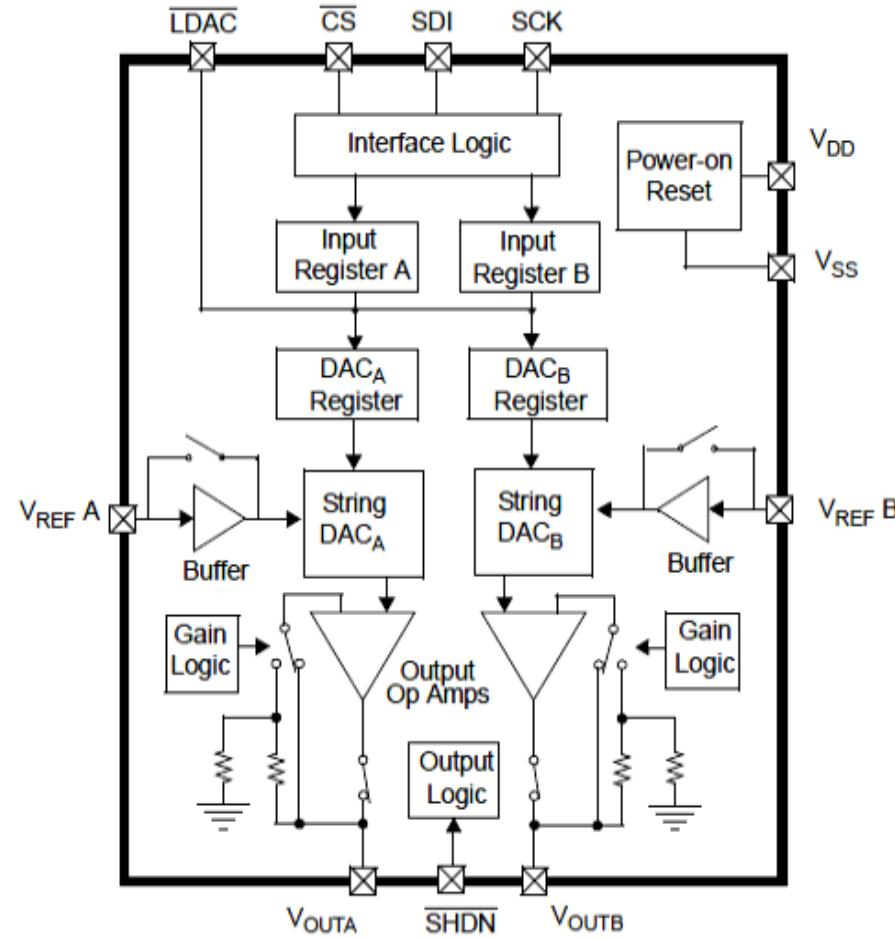

Figure 8.35 The functional block diagram of the DAC - MCP4922.
- A block diagram of the **MCP4922** is shown in Figure 8.35 (next slide).